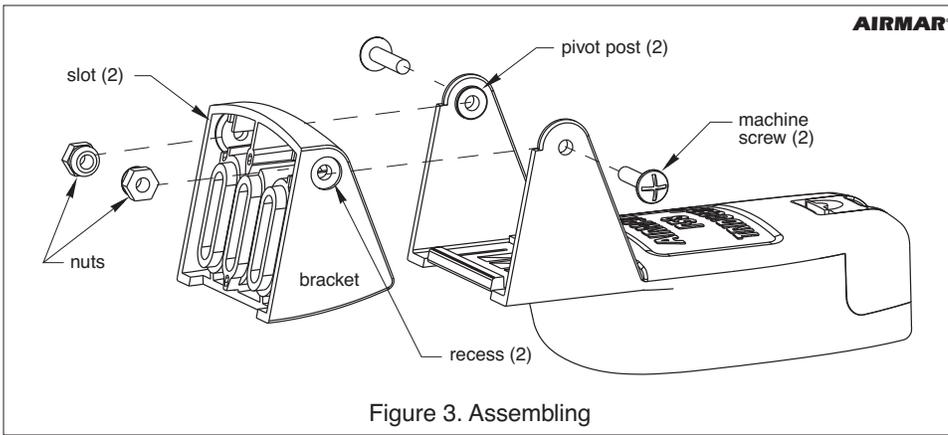
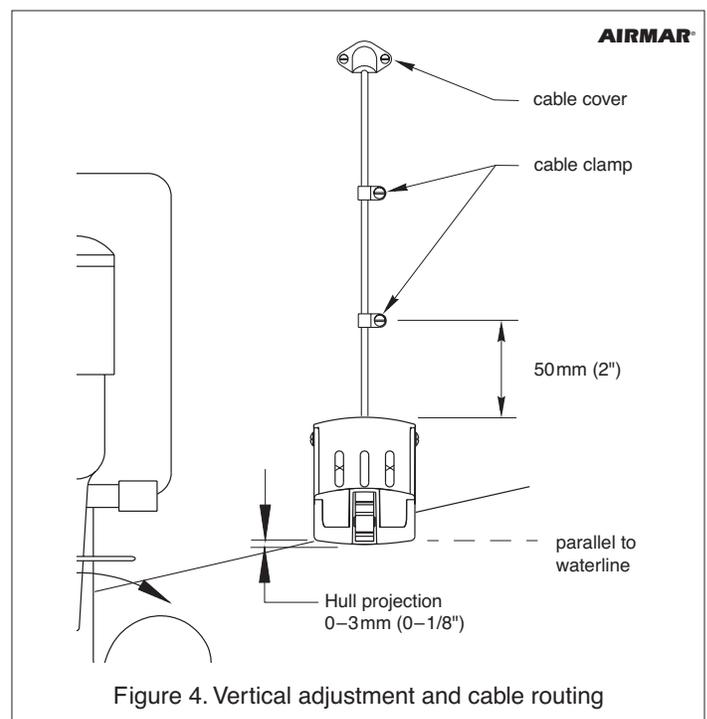

Figure 3. Assembling
Figure 4. Vertical adjustment and cable routing
1. Insert the multisensor's pivot posts into the recesses on the sides of the bracket (see Figure 3).
1. At the selected location, position the multisensor, so it projects 3mm (1/8") below the bottom edge of the transom (see Figure 4).
1. Apply marine sealant to the threads of two, #10 x 1-1/4", self-tapping bracket screws to prevent water seepage into the transom. *Be sure* the nuts are in the slots in the back of the bracket and any shim(s) is in place (see Figure 3). Screw the multisensor to the hull (see Figure 4). *Do not tighten the screws completely at this time.*
3. Using the vertical adjustment space in the bracket slots, slide the multisensor up or down until the bottom left corner of the multisensor projections 0–3mm (0–1/8") below the bottom of the hull (see Figure 4). When you are satisfied with the position of the multisensor, tighten the two bracket screws.
- B. Move the multisensor farther into the water in increments of 3mm (1/8") (see Figure 4).
1. If a hole must be drilled through the transom, choose a location **well above the waterline** (see Figure 4). Check for obstructions such as trim tabs, pumps, or wiring inside the hull. Mark the location with a pencil. Drill a hole using the appropriate size bit to accommodate the connector.